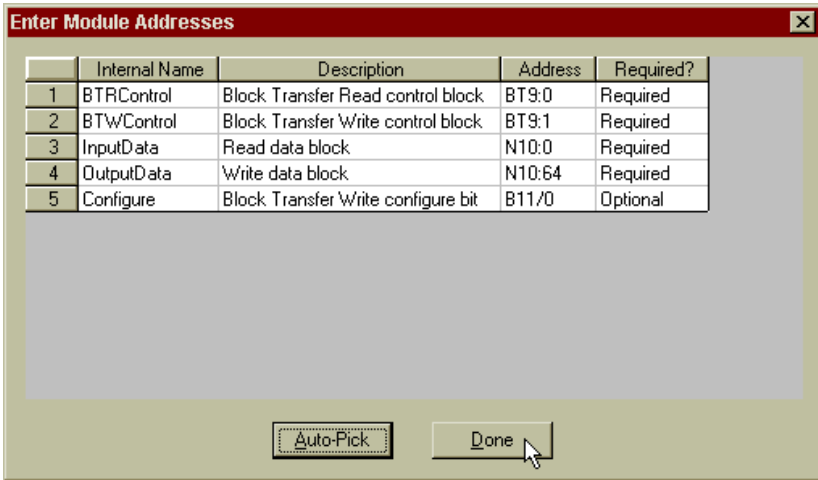

FIG. 4-18 MODULE ADDRESS DISPLAY WITH ADDRESSES
- Step 11. Click on the Auto-Pick button. The addresses appear in the address column. (See Fig. 4-18)